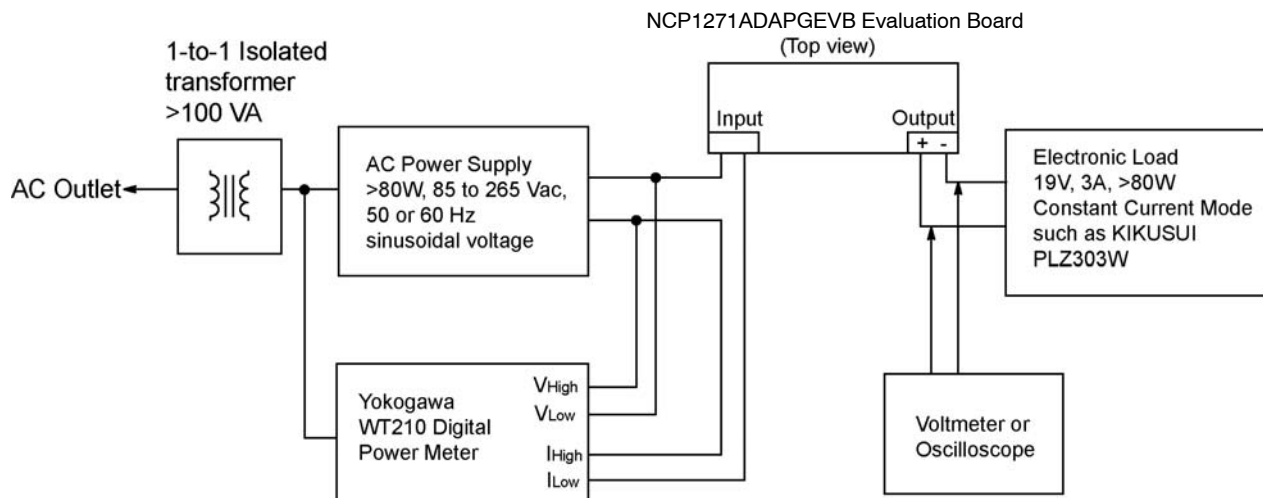

Figure 20. Test Setup
1. Connect the equipment as shown in Figure 20.